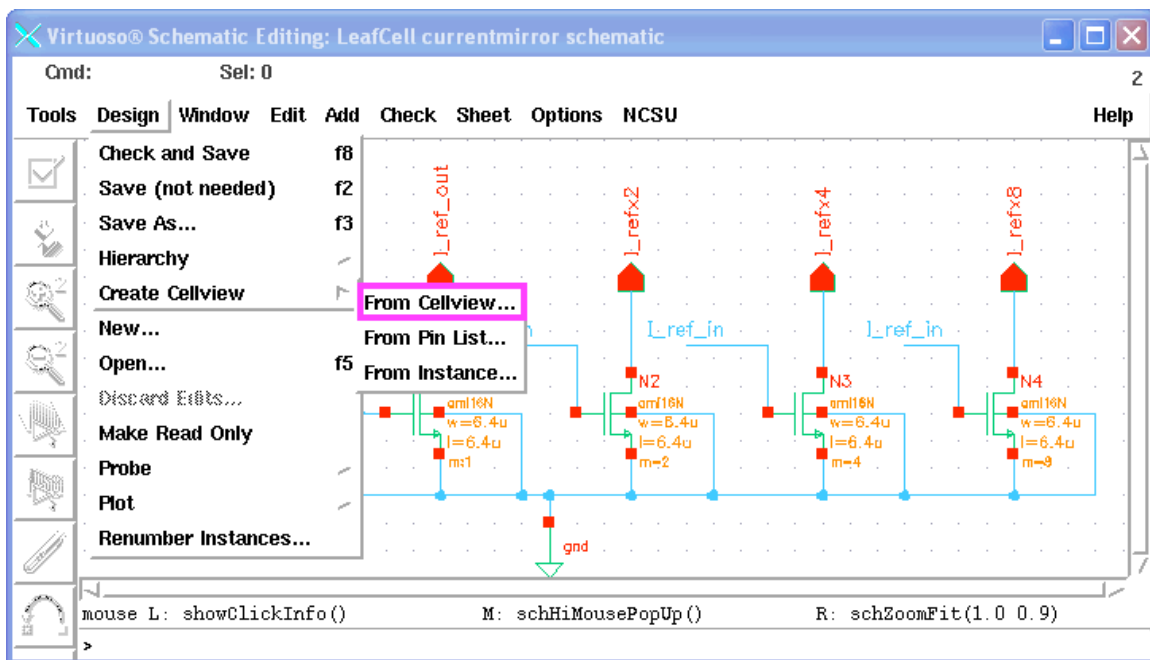

Figure 32: Where to go for creating symbol from schematic.
1. Go to the *schematic* window and go to *Design...Create Cellview...From Cellview...* (Figure32).